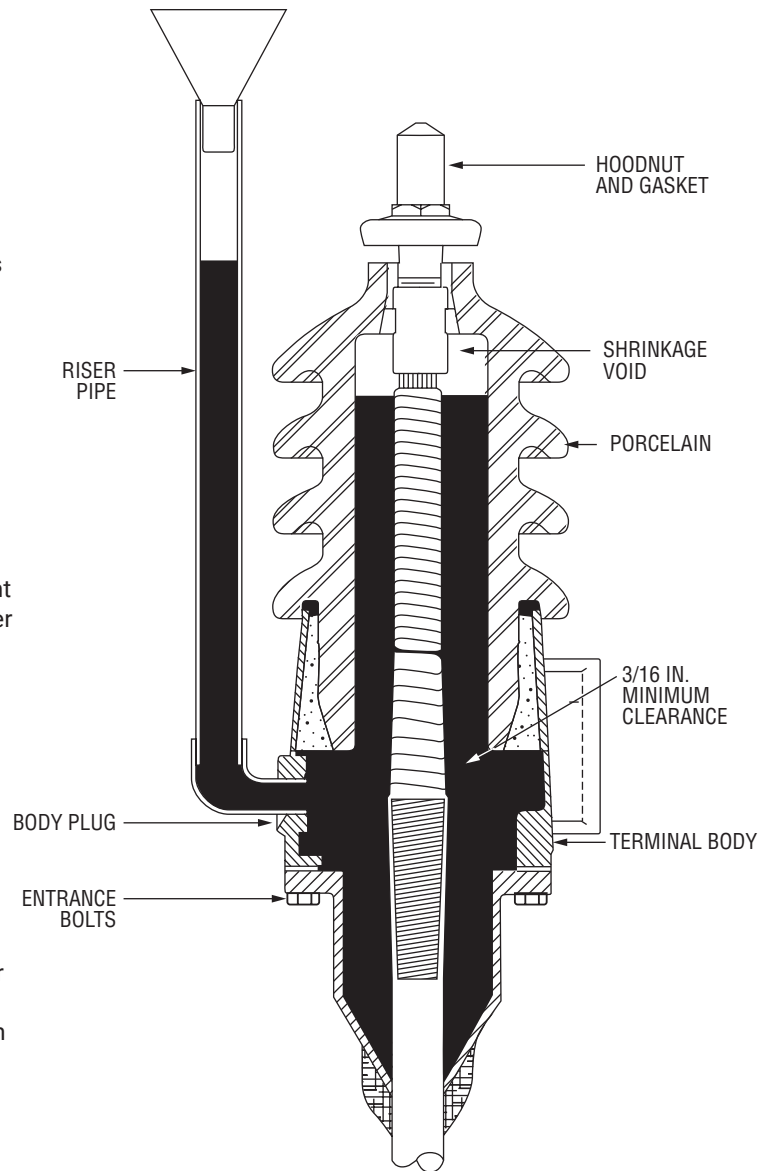

FIGURE 1. COMPOUND FILLING DIAGRAM
4. Use a large diameter riser pipe (see Figure 1). The pipe should extend approximately one foot above the high point of the porcelain to provide a static pressure head. The riser pipe should be the same size as the pipe boss or larger.